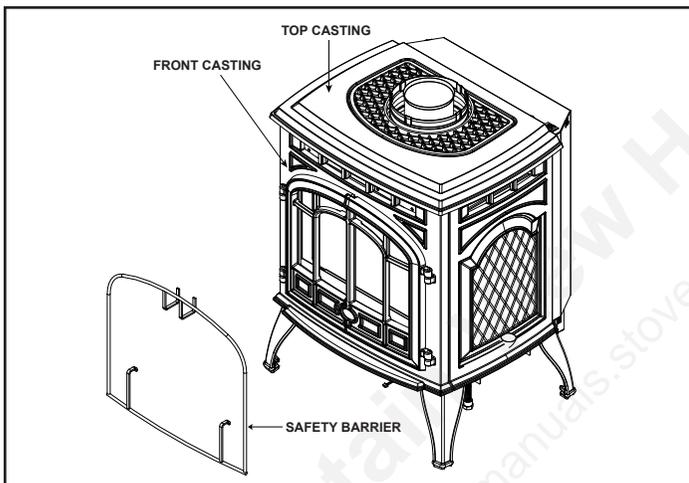

Figure 10.1 - Remove Casting
2. Remove front casting by grasping it at the top and lifting up. If the stove is already installed in a top vented configuration, the top casting will need to be lifted slightly to accommodate removal of the front casting. See Figure 10.1. Set front casting aside on prepared work surface.
Reinstall the glass frame by engaging the latches at the bottom corners of the firebox with the glass frame tabs. See Figure 10.1 and 10.2 for reference. Reinstall front casting and safety barrier.